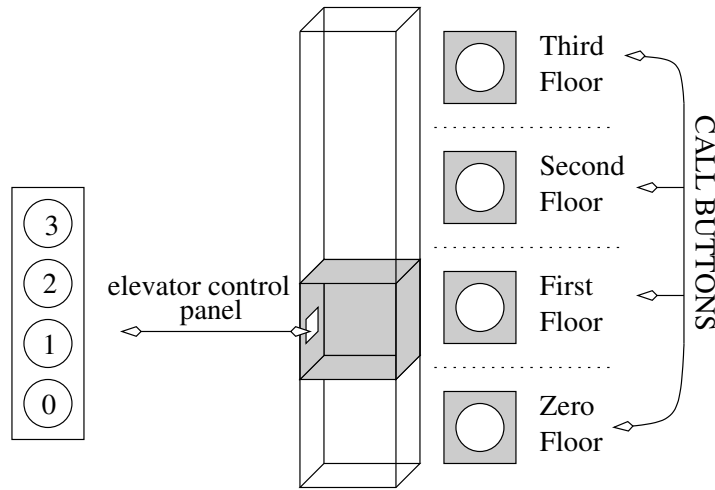

Figure 7.10: The layout of an elevator in a four story tall building.
13. **(36 pts.)** Construct a digital circuit to control the movement of an elevator in a four-story building. The elevator will always wait on its current floor until a call button is pressed; see Figure 7.10. The elevator then moves to the floor that was called. The elevator then opens its doors and waits for an elevator control button to be pressed. If no elevator control button is pressed and a call to another floor is received, then the elevator closes the doors and goes to the new floor. When a floor is selected on the elevator control panel, then the door close and the elevator moves to the desired floor.